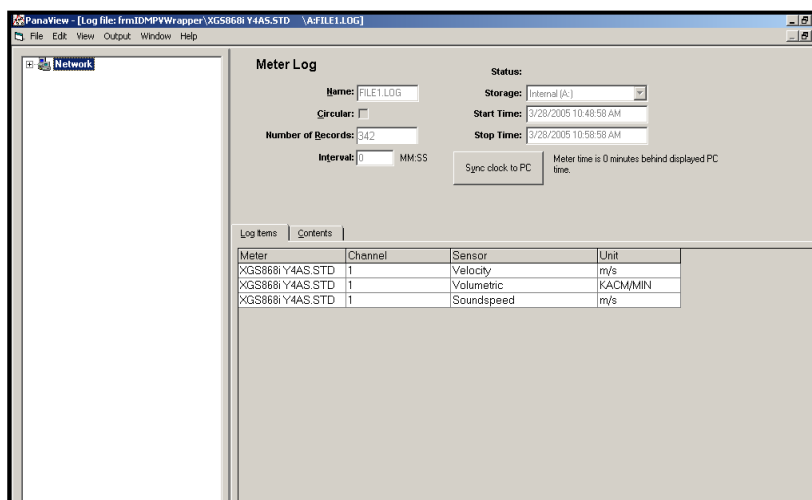

Figure 20: Data Window for an Individual Meter Log
2. Double-click on the desired log. A window opens for the individual log, as shown in Figure 20.
- Click on the *Log Items* tab (see Figure 20) for a list of the parameters specified for logging.